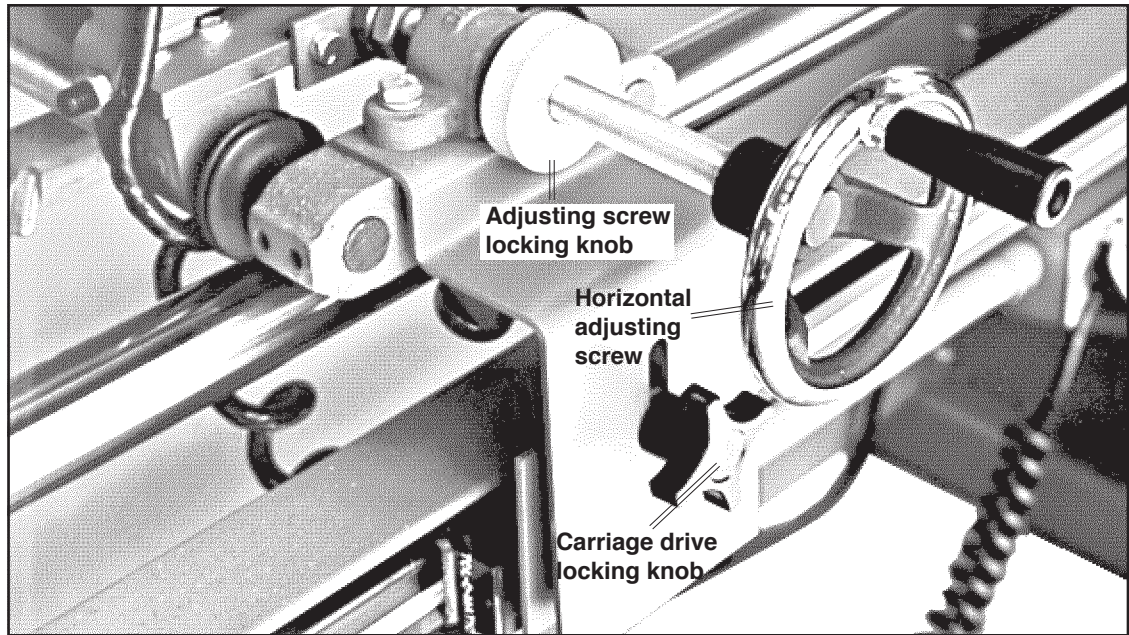

Figure 4.1 Carriage
4.0.1 Disengage the grinding head from the pneumatic drive and move the grinding wheel to one end of mower. Adjust the head assembly in with the horizontal adjusting screw until contact is made with one of the reel blades, as it is rotated back and forth past the grinding wheel (see Figure 4.1)